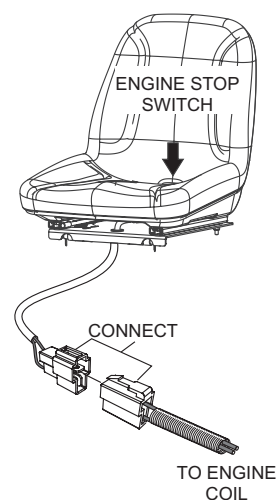

Figure 8. Engine Stop Switch (Seat)
4. Connect the engine stop switch (seat) cable to the mating plug as shown in Figure 8.